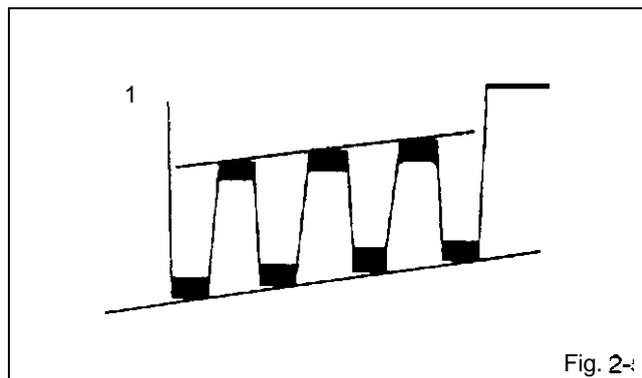

Fig. 2-5
4. Press the VOL. UP/DOWN key on the remote control until the waveform becomes as shown in Fig. 2-5.